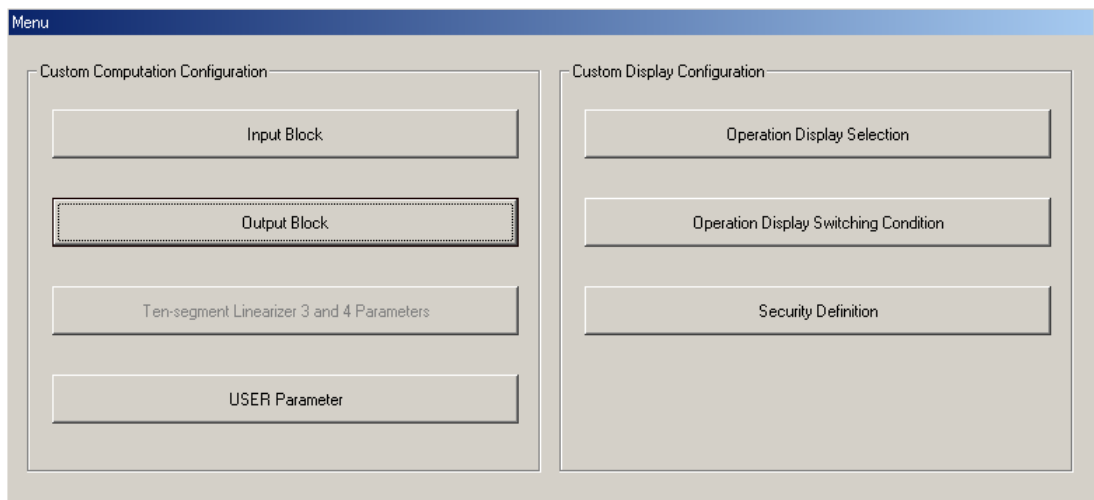
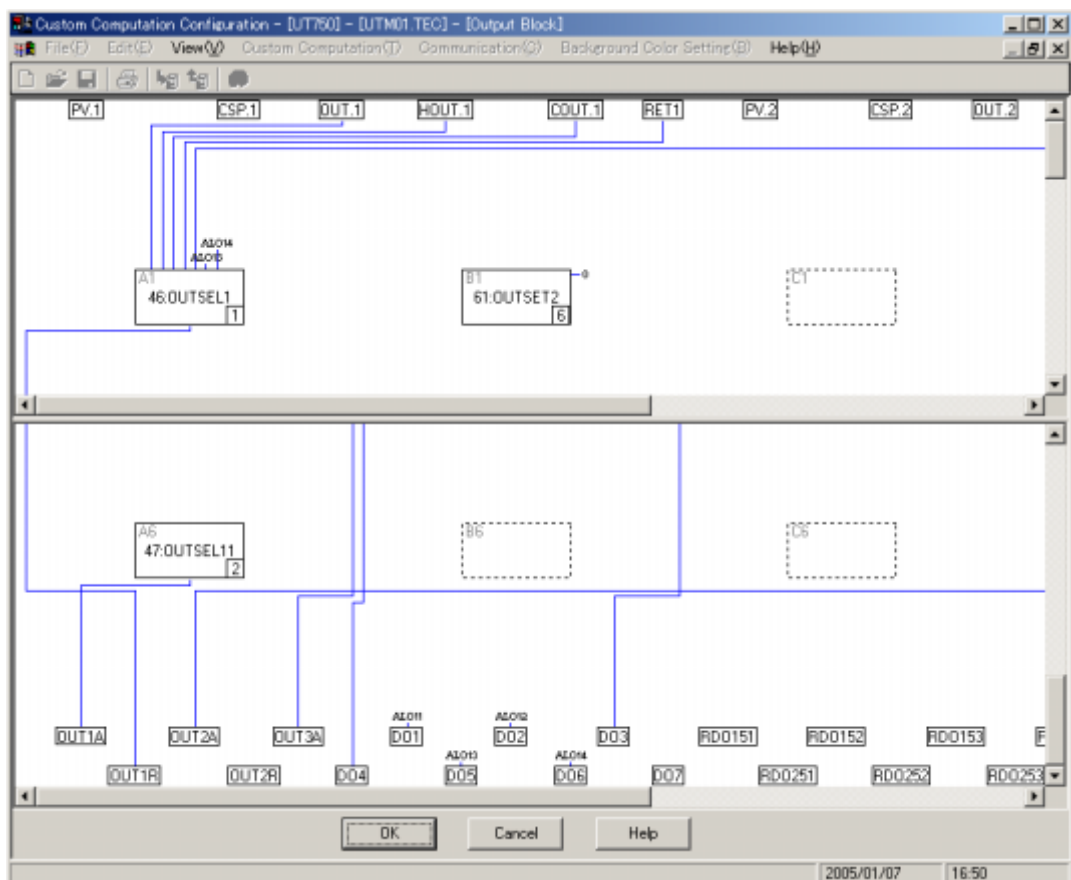

Figure 4.3.2 [Custom Computation Configuration Menu] Dialog Box
Figure 4.3.4 [Output Block] Dialog Box for Single-loop Control
Figure 4.3.2 shows the [Custom Computation Configuration Menu] dialog box used to configure custom computations.
- (1) In the [Custom Computation Configuration Menu] dialog box (Figure 4.3.2), click the <Output Block> button. The [Output Block] dialog box appears. Figure 4.3.4 illustrates the [Output Block] dialog box for single-loop control (Sample file: Utm01.tec) of UT750.